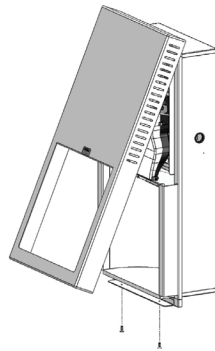

Fig. 1
1. Loosen dryer cover by removing the mounting screws located at the bottom of the unit using Torx T20 bit provided. (See Fig. 1)
2. Pull bottom side of dryer cover forward and lift up carefully to disengage dryer cover. (See Fig. 1)